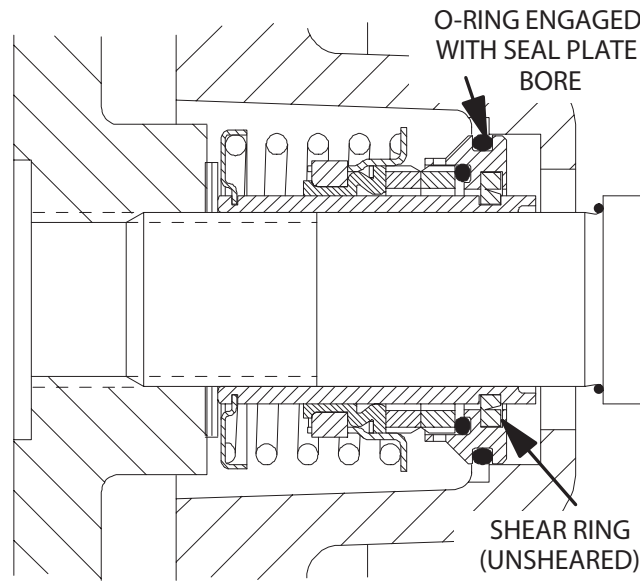

Figure 6. Seal Partially Installed
Clean and inspect the impeller as described in Impeller Installation and Adjustment. Install the full set of impeller shims (30) provided with the seal, and screw the impeller onto the shaft until it is seated against the seal (Figure 6).